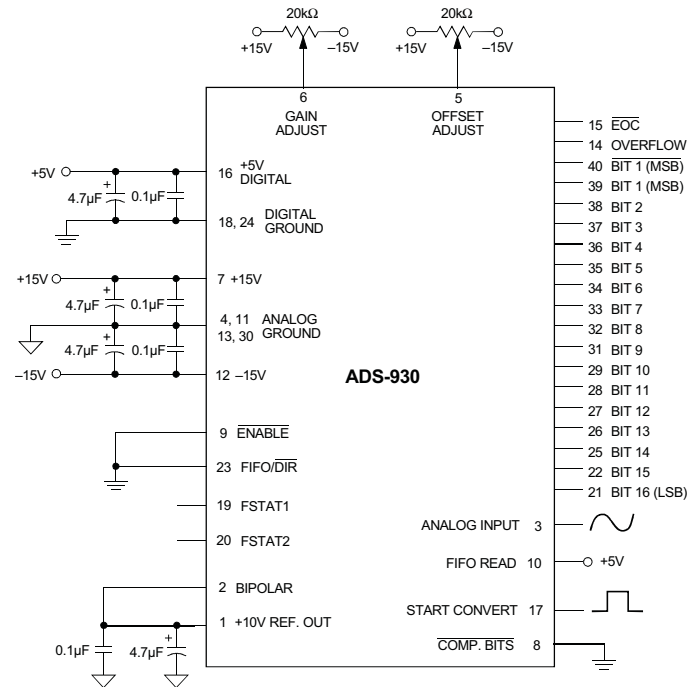

Figure 2. Bipolar Connection Diagram
2. The ADS-930 achieves its specified accuracies without the need for external calibration. If required, the device's small initial offset and gain errors can be reduced to zero using the adjustment circuitry shown in Figure 2. When using this circuitry, or any similar offset and gain calibration hardware, make adjustments following warmup. To avoid interaction, always adjust offset before gain. Tie pins 5 and 6 to ANALOG GROUND (pin 4) if not using offset and gain adjust circuits.
CALIBRATION PROCEDURE (Refer to Figure 2 and Tables 3a and 3b)
Connect the converter per Table 2 for the appropriate input voltage range. Any offset/gain calibration procedures should not be implemented until the device is fully warmed up. To avoid interaction, adjust offset before gain. The ranges of adjustment for the circuits in Figure 2 are guaranteed to compensate for the ADS-930's initial accuracy errors and may not be able to compensate for additional system errors.